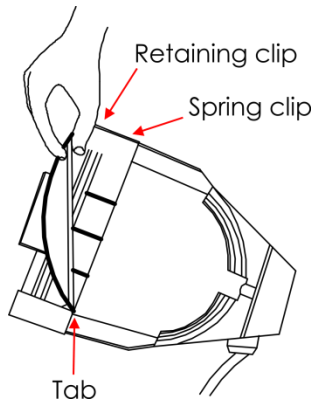

Fig. 09
- 03) Hold the lens by the edge, so that the convex side faces the back side of the device (Fig.09).